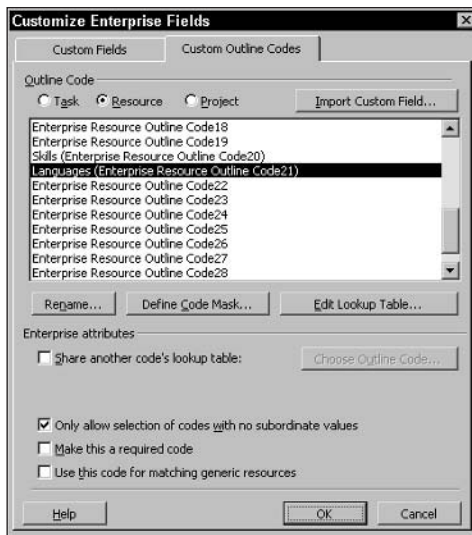

Figure 19-25: Use Enterprise Resource Outline Codes 20 through 29 to create an enterprise resource multivalue field.
3. Choose Tools→Customize→Enterprise Fields. You see the Customize Enterprise Fields dialog box, as shown in Figure 19-25.